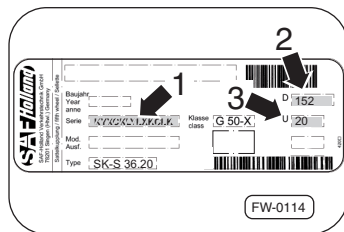

Fig. 1 · Type plate
- Adherence to the performance limits Fig. 1 of the product,